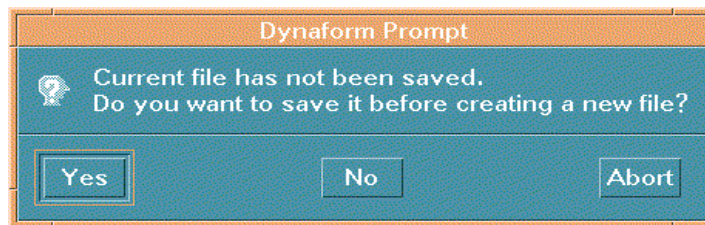

Figure 3.1.1 New File Prompt
- If a database file has been opened in eta/DYNAFORM, there is a warning message for saving the opened file before creating a new one, see Figure 3.1.1.